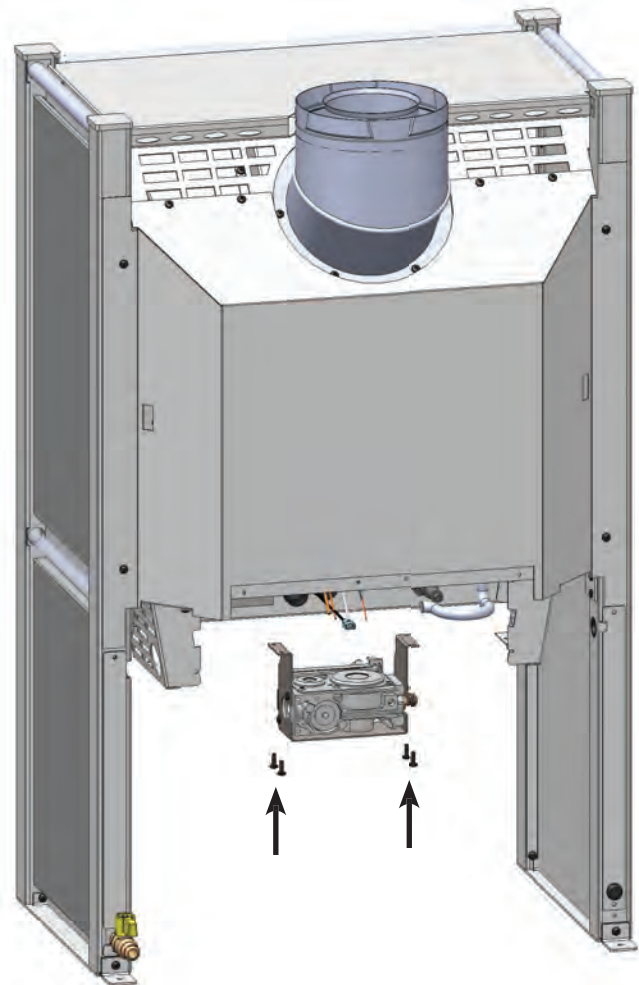

Fig.54
6. Remove the four screws holding the valve and valve bracket to the firebox bottom and remove valve. (Fig.54)